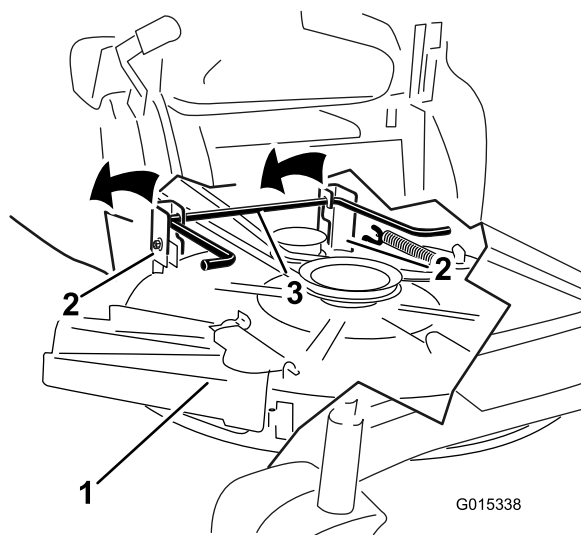

Figure 55
- Lift the mower deck and hanger brackets clear of the rear lift rod and lower the mower carefully to the ground (Figure 55).
- Lift the rear of the mower deck and guide the hanger brackets over the rear lift rod (Figure 55).